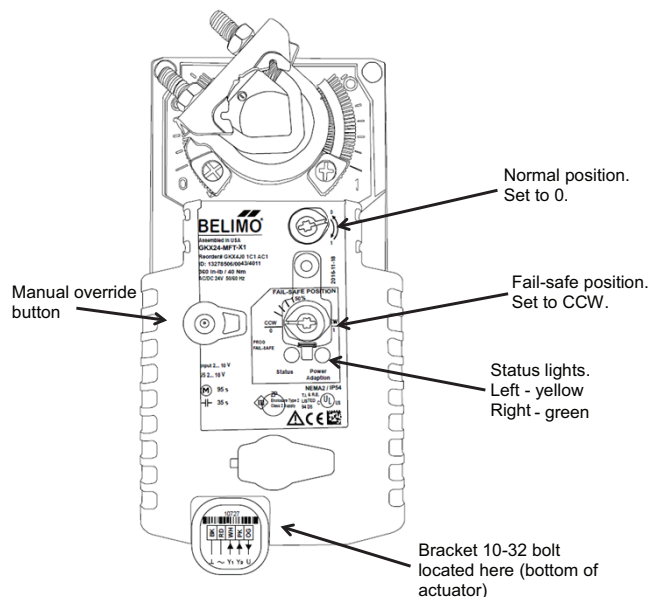

Fig. 54 — Actuator Settings, 30MP051-080 Head Pressure Control and Evaporator Isolation
All actuators are 5-wire, 2-10vdc control, reverse acting, electronic fail-safe. The actuator is pre-programmed for the unit and should not require field programming. The red and black wires are used to power the actuator. The signal connection is made at the actuator white wire. The orange and pink wires are not used. The default settings on the actuator are normally open and fail open. The normal position dial should be set to 0 (Fig. 54), which will ensure the actuator will move to the full counterclockwise position. The fail-safe position dial should be set to counterclockwise. The actuator should be in the fully counterclockwise position prior to installation. If necessary, press and hold the manual override button while turning the actuator to the full counterclockwise position prior to installing the actuator on the water valve.
For isolation during heat exchanger service, turn the fail-safe position dial fully clockwise (CW), see Fig. 54. and remove power to the actuator. This will hold the water valve in the fully closed position. Do not return power to the actuator until service is complete. Each actuator includes a manual override button. Pressing this button will release the actuator drive gear. With the manual override button held down, the water valve shaft can be rotated manually. Upon releasing the manual override button, the actuator will return to the fail-safe position. The manual override is not recommended for heat exchanger isolation, as the manual override does not lock in the actuator in position.
a. Refer to Fig. 54 for location of indicator lights.